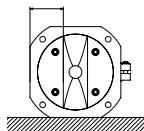

Fig. 5
- 1. Decide on the position and direction of placement, and lightly fasten the flange with the two supplied wood screws (Fig. 5). If you do not wish to drill holes directly into the top of the cabinet, prepare a separate bottom plate (7 cm x 10 cm (approx. 3 in. x 4 in.), t=12 mm (t=1/2 in.)) and attach it in the same way. Please fix the bottom plate firmly to the cabinet.**